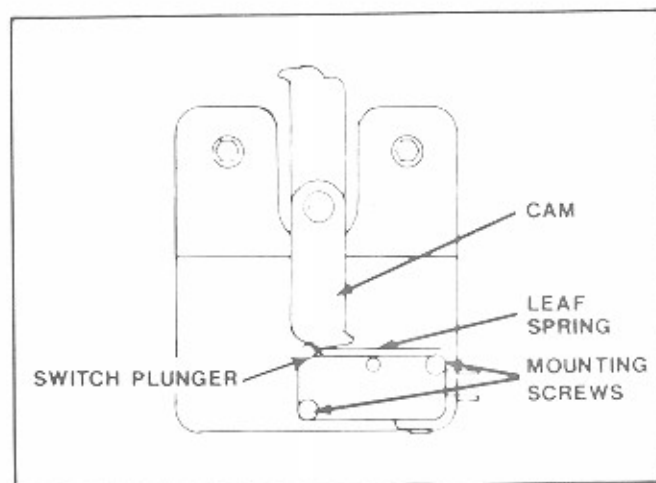

Figure 6-12. Cam Switch Adjustment
1. Check that the leaf spring is resting in the cam lobes and that the switch plunger just touches the bottom of the leaf spring as shown in figure 6-12.
2. To adjust the switches, loosen mounting screw under plunger end and move the switch housing as described in the previous step (see figure 6-12).